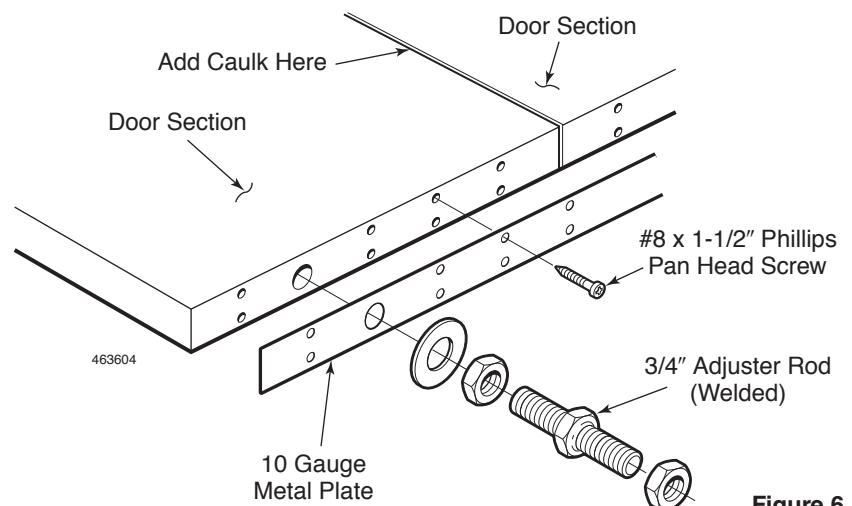

Figure 6
4. Remove the Adjuster Rod and Jam Nuts. Install the 10 gauge Metal Plate at the top and the bottom of the door. Anchor the strips with #8 x 1-1/2" Phillips pan head screws that have been provided. Reinstall the Adjuster Rod. See Figure 6.